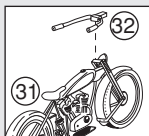

Fig. 8e
**Left Side (Fig. 8e):** Hose (28), Bucket (29), Watering Can (30), Assembled Motorcycle (31,32), Ice Machine (33), Light (34)
**NOTE:** Glue Handlebars (32) to Motorcycle (31) before attaching to building.